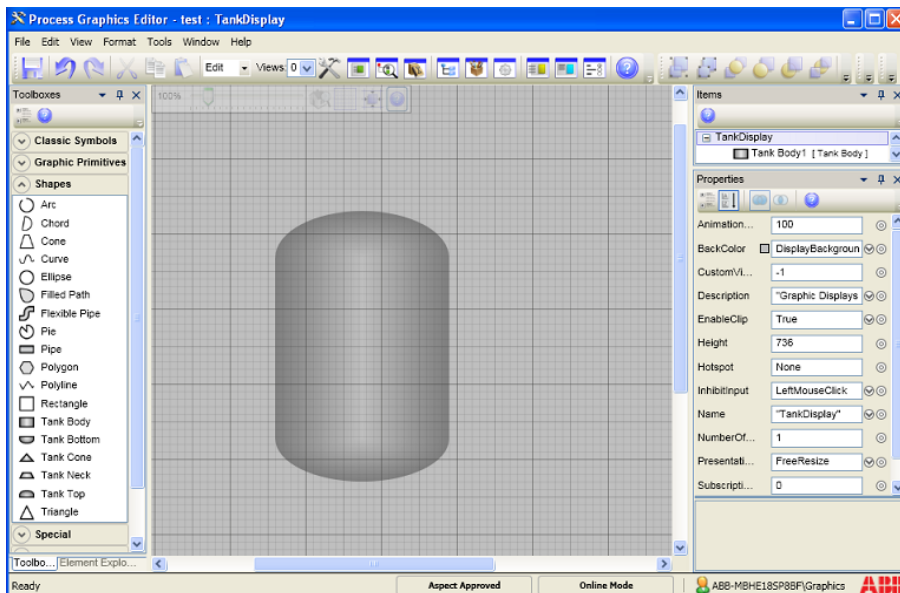

Figure 147. Graphic Display to Create a Solution Library
3. Move and resize the primitives as shown in Figure 147.